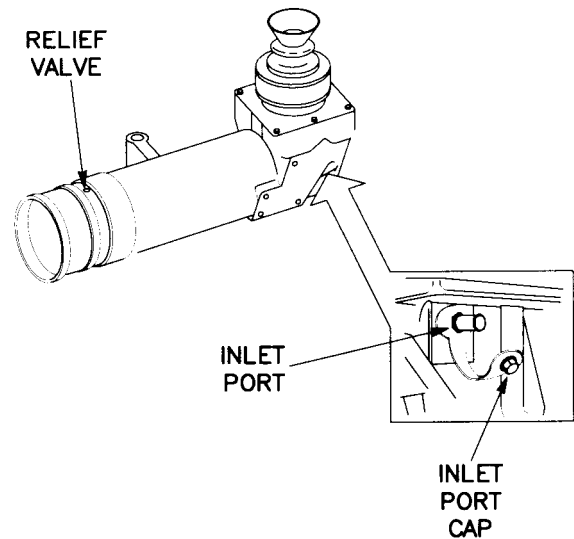

Figure 3-68 M138 Elbow Telescope
(1) Perform purging and charging procedure para 2-5.b.
(2) Purge instrument at 5 psig for 15 minutes.
(3) Charge instrument at 1 psig for 1 minute.
(4) Leak test for minimum of 5 minutes.
e. Elbow Telescope, M138 (fig. 3-68).